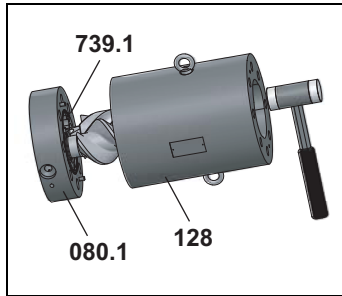

Fig. 22
2. Use light blows of a plastic tip hammer to drive the set of screws together with the bearing cover **080.1** out of the measuring housing **128**, see Fig. 22, page 36 and pull out. Remove the o-ring **739.1**.